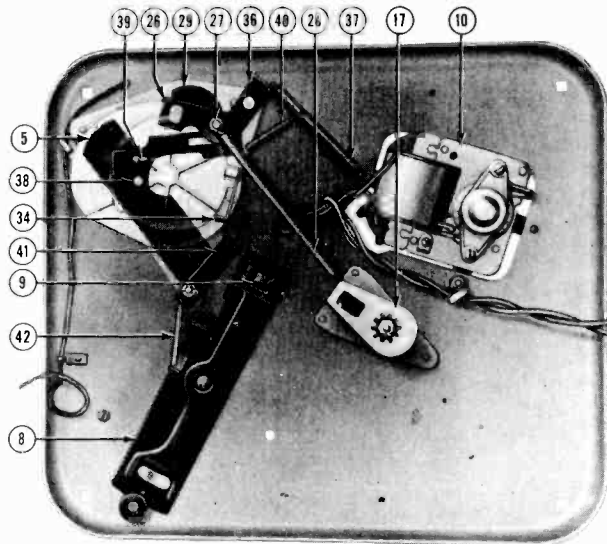

Fig. 9
1. Turntable Bearing (13) sticking. Clean and relubricate or replace bearing.
2. Drum (31) sticking. Clean and relubricate (see section entitled "To Replace Main Cam and Drum Assembly" that follows).
4. Motor (10) weak (has low torque). Replace. **CAUTION:** In replacing Motor (10). Index Spring (37) should be anchored under one of the nuts holding motor. (See Fig. 9).